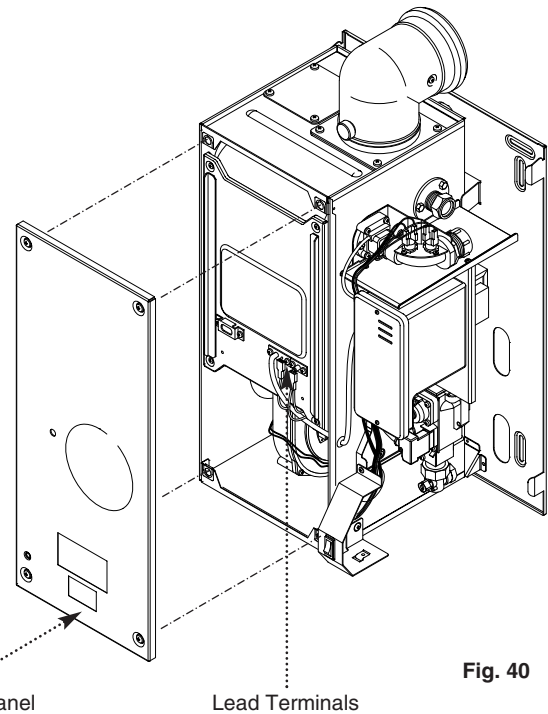

Fig. 40
6. Release the four 1/4 turn screws securing the air box door panel and remove the door (Fig. 40).